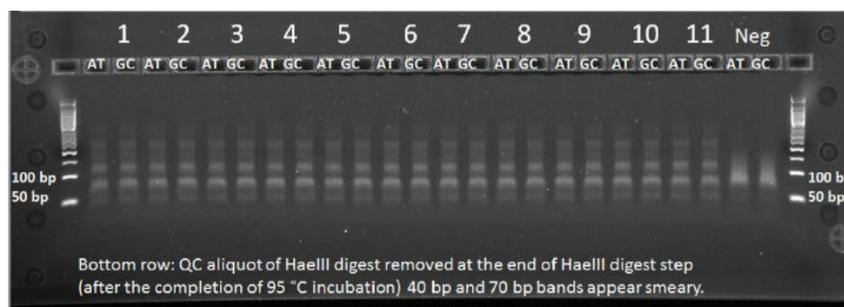

Figure 26 Example of *HaeIII* aliquot taken after the thermal cycler block ramped to 95°C.
- c. If the *HaeIII* product aliquot was removed after the thermal cycler block reached 95°C, the sample wells will not have a distinct double band pattern at 40 bp and 70 bp. (Figure 26.)
**Gel Pattern:** All samples show a smear around 50–100 bp. No distinct double band pattern at 40 bp and 70 bp is observed. The image looks like Figure 26.